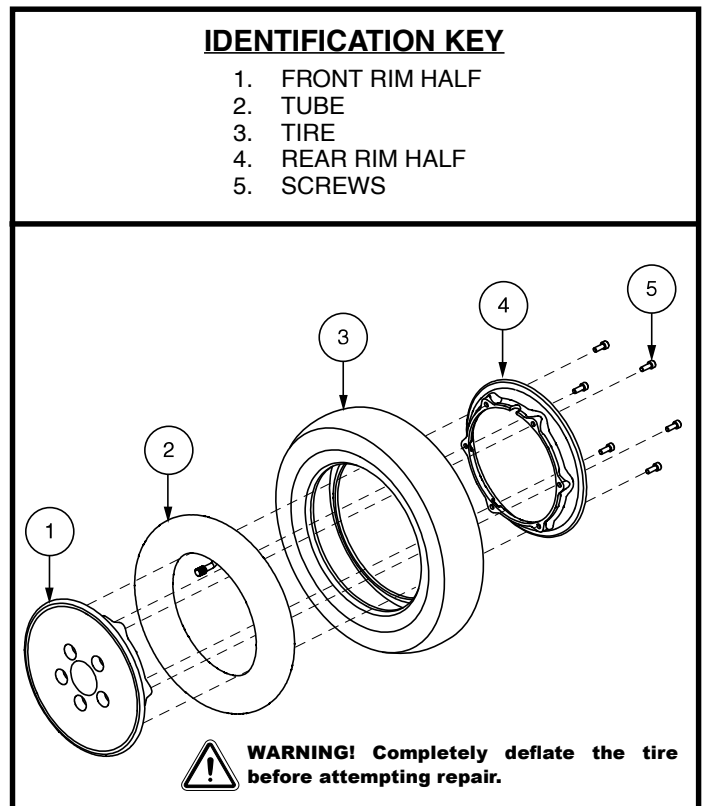

Figure 28. Pneumatic Drive Wheel Disassembly/Assembly
6. Remove the screws and separate the rim halves. See figure 28.